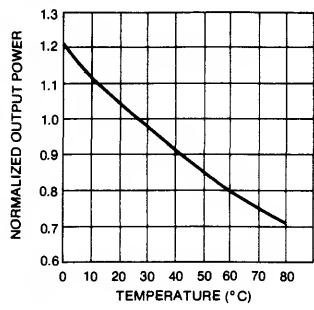

Fig. 2. Normalized Output Power vs. Temperature (see Note 3)
3. The curves in Fig. 2 are normalized to the power output at 25°C to indicate the relative efficiency over the operating temperature range.